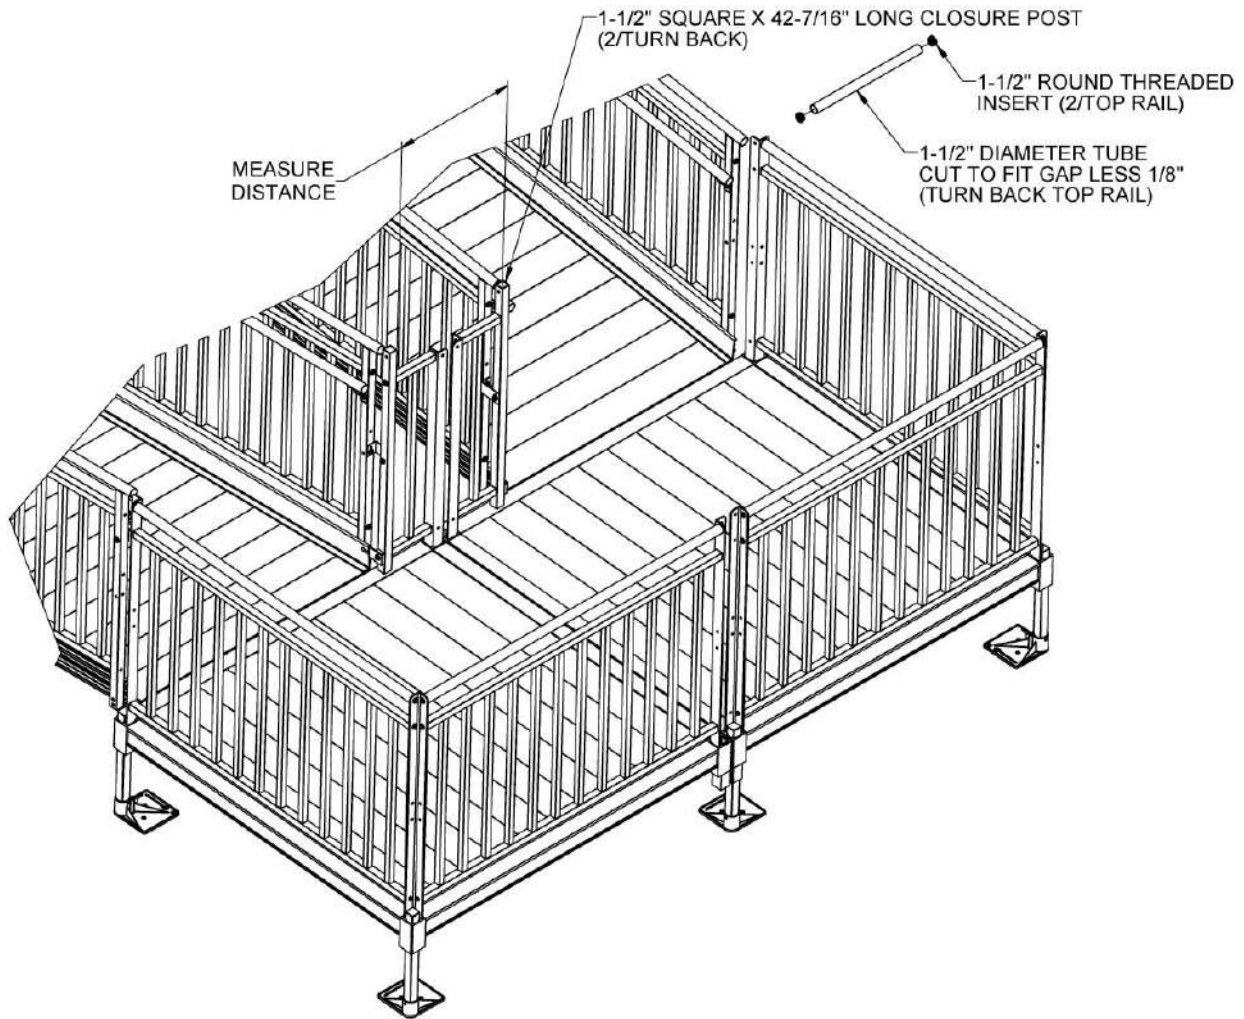

FIG. 5.31
- 5.7.4. For the turn back top rail, measure the distance between the 1-1/2" square x 42-7/16" long closure posts at the turn back, and then cut the 1-1/2" diameter tube to the measured length less 1/8" to account for the threaded inserts which will be installed in the following steps (FIG. 5.31).
- 5.7.6. Insert 1-1/2" round threaded inserts into both ends of the 1-1/2" diameter tube. Use a rubber mallet or similar tool to fully seat as needed. (FIG. 5.31).